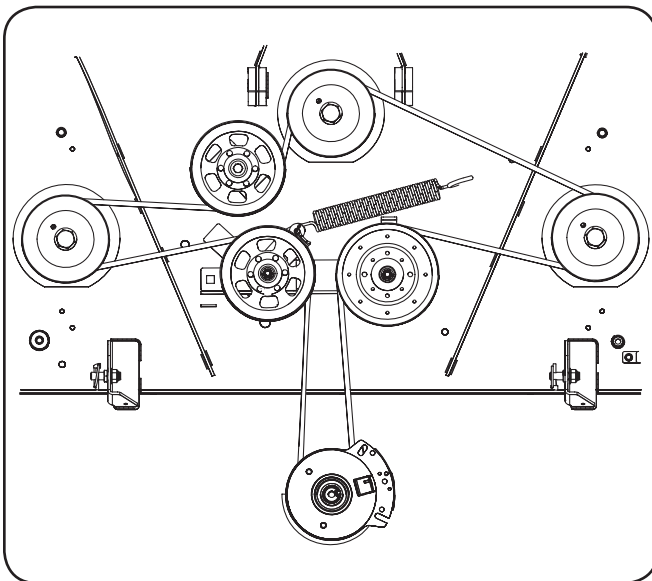

Figure 7-9
6. Place the belt around the idler pulleys removed in step 3 with the "V" side facing in. Once in place, reinstall all the hardware and tighten the flange lock nut to secure the assembly. See Figure 7-9.
7. Route the belt as shown in Figure 7-9 and then reinstall the deck (refer to Deck Installation).